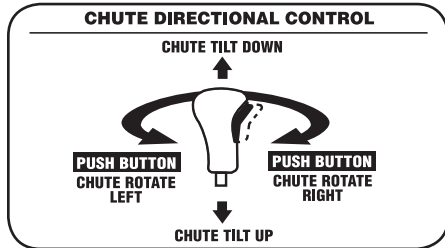

Figure 3-6
- To change the direction in which snow is thrown, squeeze the button on the joystick and pivot the joystick to the right or to the left. See Figure 3-6.